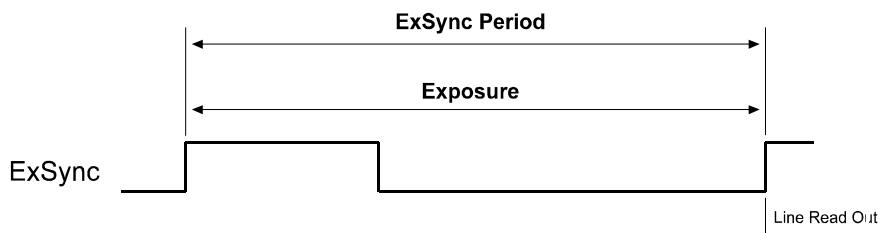

Figure 3-2: ExSync, Edge-Controlled Mode
- In **ExSync, edge-controlled** mode, the pixels are exposed and charge is accumulated over the full period of the ExSync signal (rising edge to rising edge). The falling edge of the ExSync signal is irrelevant. The line is read out and transferred on the rising edge of ExSync. (see Figure 3-2).